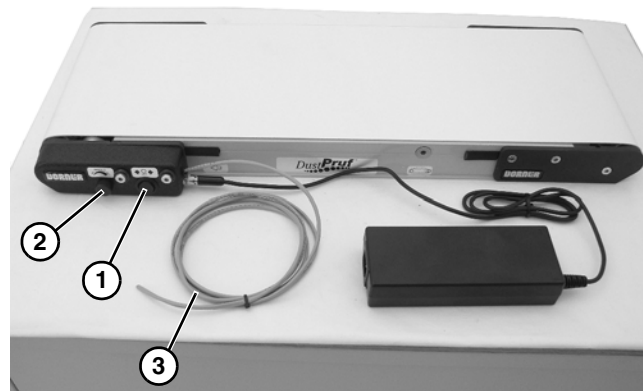

Figure 29
2. Select conveyor running direction with directional switch (Figure 29, item 1).
3. Select conveyor speed with speed control knob (Figure 29, item 2).
4. Remote start/stop cable (Figure 29, item 3) comes with wire nut over remote leads to allow test running conveyor.